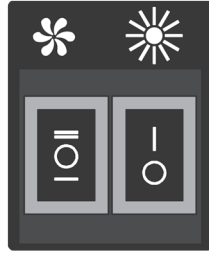

Fig.5
7.3 On the sides of the housing there is a rocker-type switch for selecting of operating mode and switching on the light bulbs (Fig. 5):